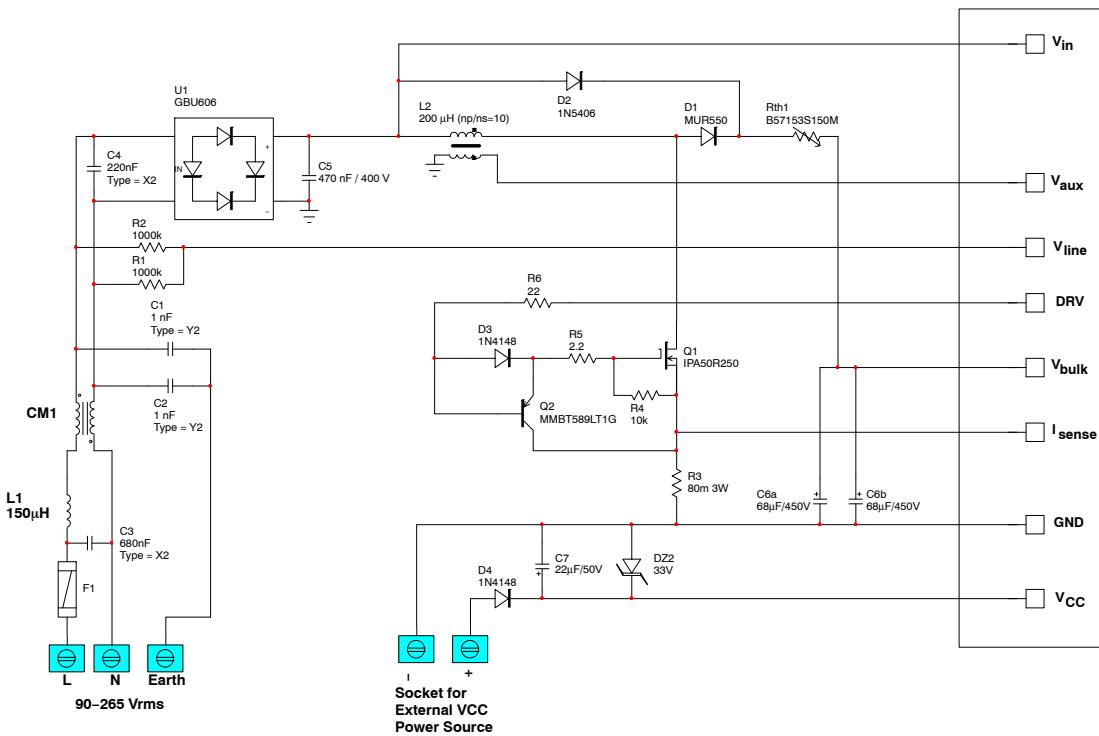

Figure 2. Application Schematic – Power Section
case, unplug the PFC stage to recover operation. In all events, do not apply more than 33 V to the V_{CC} socket not to exceed the DZ₂ reverse ZENER voltage (see Figure 2).
- Discharge resistors for X2 capacitors (R_1 and R_2 of Figure 2) consume $\left(\frac{V_{line,rms}^2}{R_1 + R_2} \right)$ that is about 7 mW at 115 V and 26 mW at 230 V.